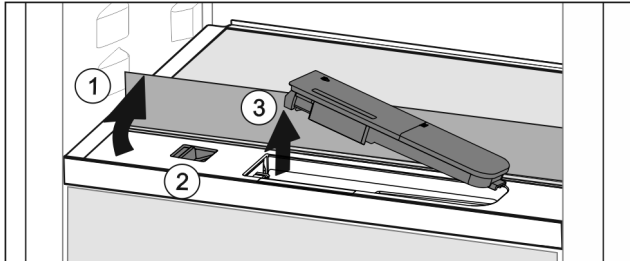

Fig. 159
- ▶ Lift the glass panel and fold to the back as far as it will go Fig. 159 (1).
- ▶ Slide the slider Fig. 159 (2) to the left.
- ▶ Remove the water tank Fig. 159 (3).